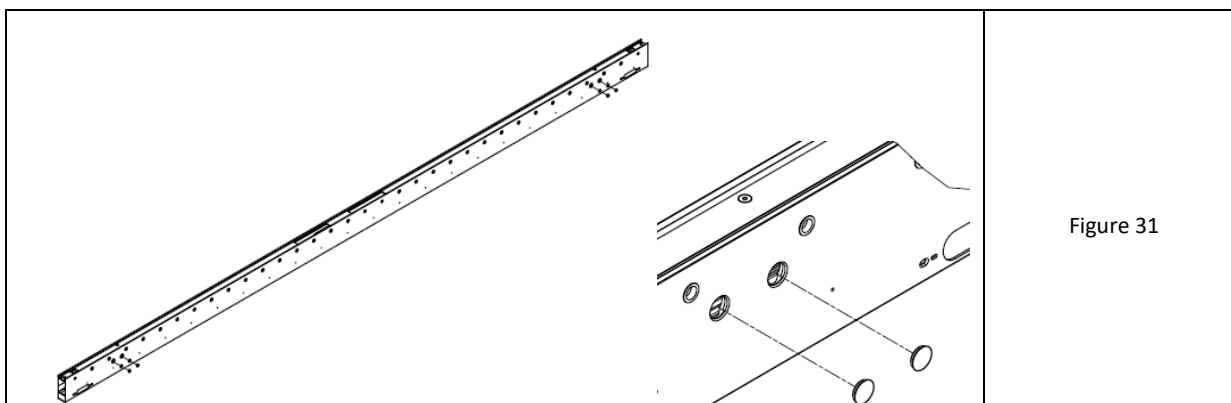

Figure 31
4. Place the wall beam on the anchors and fasten it with the nut washer from the anchor (size M12). Tightening torque according to the anchor manufacturer's instructions (fig. 31).
5. Cover the holes for the anchors in the beam with aluminium plugs set on silicone (fig. 31-right).